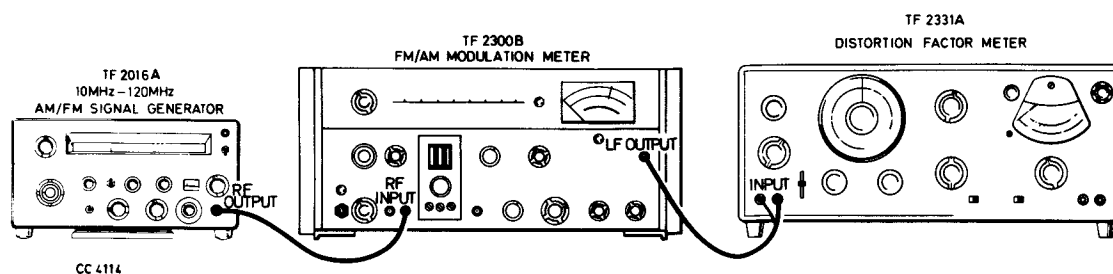

Fig. 3 Checking f.m. and a.m. distortion.
- (1) Connect the test equipment as shown in Fig. 3.
- (2) Set the FUNCTION selector at CW, the CARRIER switch at ON, the MOD switch at ON and the frequency of TF 2016A at 30 MHz. Then check that the pointer of the MOD/CARRIER meter is within the white box.
- (3) Set the FUNCTION selector at INT AM. Then adjust the SET MOD control to centre the pointer of the MOD/CARRIER meter.
- (4) Set the AM DEPTH control at 30%. Then tune the modulation meter to TF 2016A and check that the distortion indicated on the distortion factor meter is not greater than 1.5%.
- (5) If required, repeat the check using the external a.f. generator for modulation frequencies at 100 Hz and 10 kHz.
- (1) With the test equipment connected as in Fig. 3 repeat para. 24 (2). Then